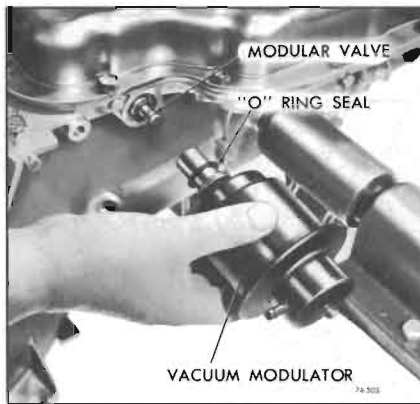

Figure 74-505
5. Remove modulator assembly and "O" ring seal from case. See Figure 74-505.